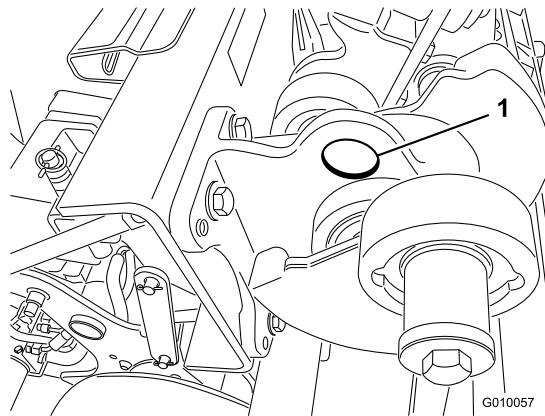

Figure 43
**Note:** If available, a hoist can be used to lift the rear of the machine. Use the eyelets in the coring head bearing housings as hoist attachment points (Figure 43).